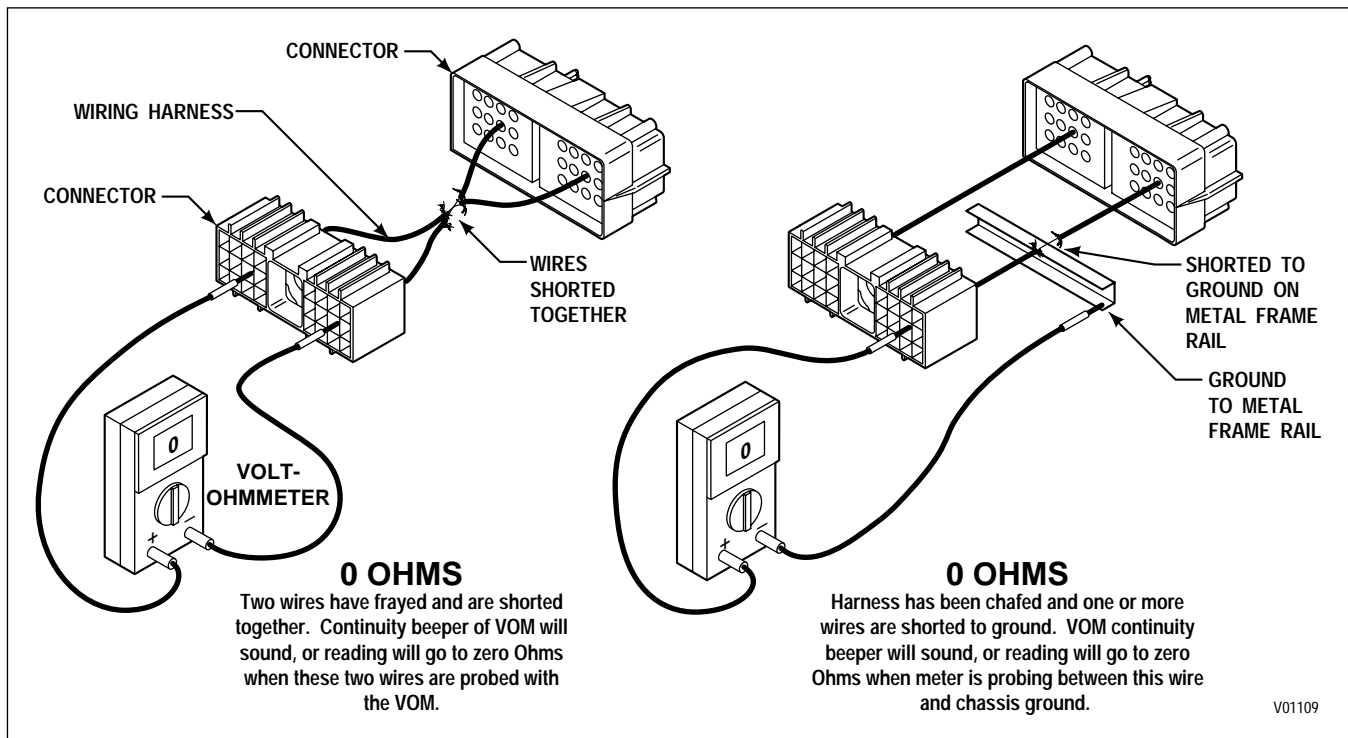

Figure 4–2. Short Between Wires And To Ground
- b. If the continuity check is good (0–2 Ohms resistance), remove the jumpers. Check the harness for shorts between wires and shorts-to-ground by performing the following (refer to Figure 4–2):
- (1) At the ECU end of the harness, touch one VOM probe to one wire of the circuit being tested and touch the other probe to each terminal (in both connectors), then touch the probe to chassis ground and to the transmission main housing. Do this for both wires in the circuit being tested.
- (2) If at any time the VOM shows zero to low resistance, or the meter's continuity beeper sounds, there is a short between the two points being probed — wire-to-wire or wire-to-ground. Isolate and repair the short.